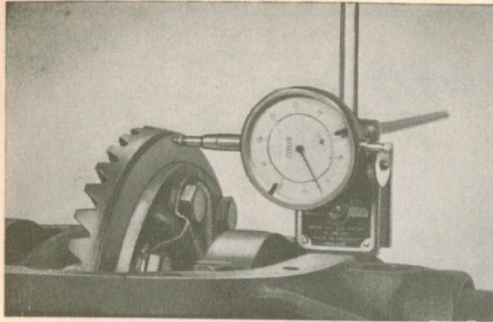

Fig. 5-27. Measuring the ring gear runout
12. Fit the caps (2) with bolts and tighten the bolts to a torque of 5.5–7 kgm (40–50 lb.ft.). Fit an indicator against the reverse side of the ring gear, Fig. 5-27. Rotate the ring gear and measure its runout. This should not exceed 0.08 mm (0.003").